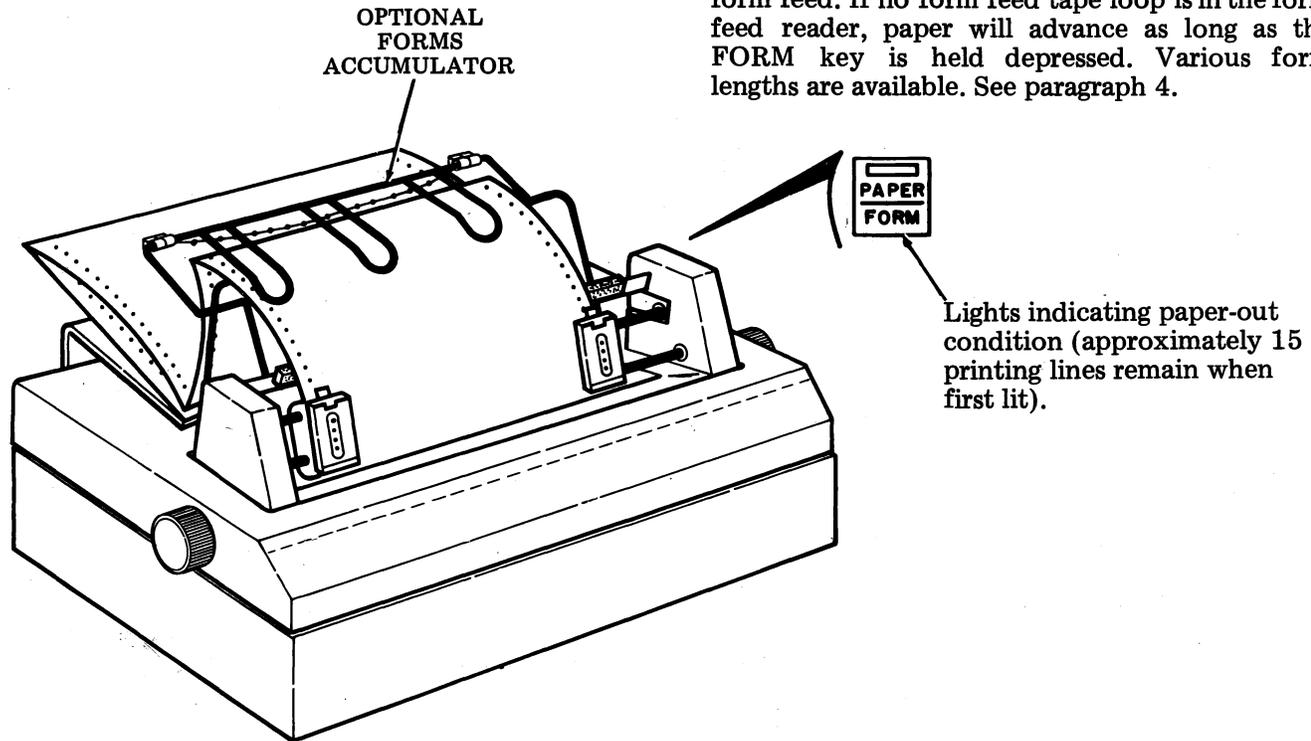

Fig. 1—Controls and Indicators
2.01 The DATASPEED AP25 printer is a 132-column, matrix impact tractor feed printer that provides hard copy of messages received on-line via an SSI cable, under the direction of a Data Communications Processor (DCP) and optionally, messages originated locally under attendant control. See Fig. 1.
2.04 Forms may be accumulated on an optional 454172 forms accumulator shelf. See Fig. 1.
3.01 The controls and indicators are described in Fig. 1.